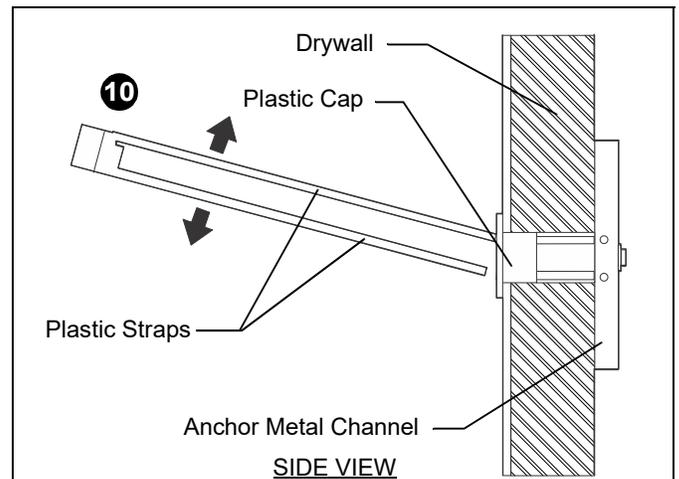

Figure 16
10. Snap off plastic straps on anchor at wall by pushing side to side, snapping off straps level with flange of plastic cap. (See Figure 16)